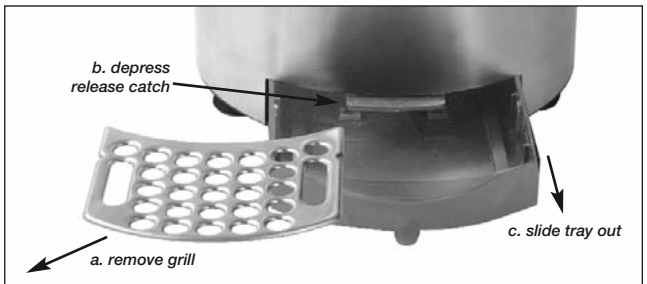

Figure 7
- (vi) Remove the drip-tray plate and then remove the drip tray as shown in Figure 7.